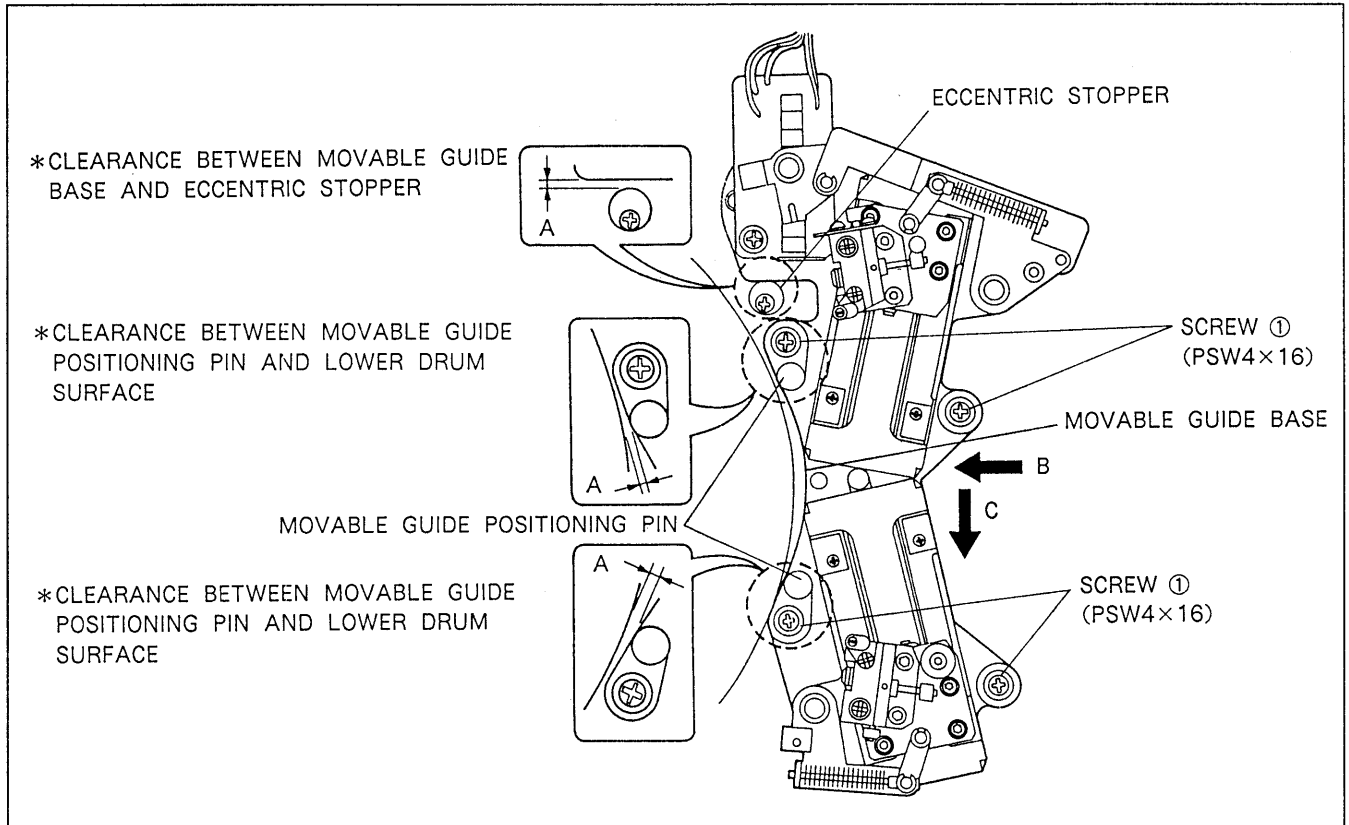

Fig. 6-4-8. Installation Position Adjustment of Movable Guide Assembly
11. While pressing the movable guide assembly toward drum in the directions of arrows B and C at the same time, as shown in Fig. 6-4-8, tighten the four screws ① until clearance of three positions marked with asterisk (*) meets the specification A.